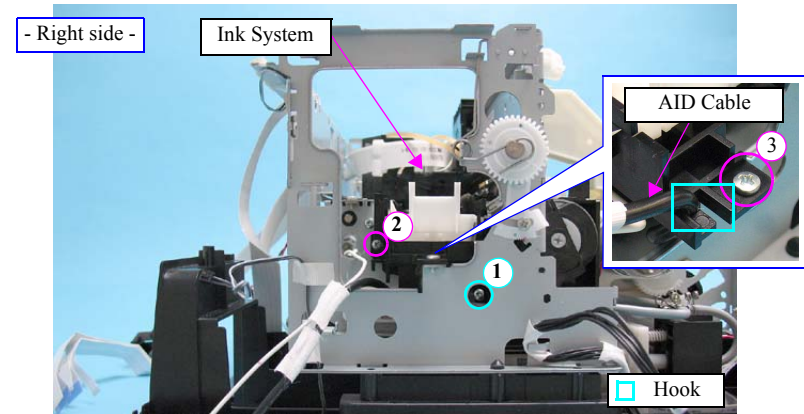

Figure 4-239. Removing the Ink System (2)
- Tighten the screws in the order indicated in Figure.4-239.
- Route the AID cable through the hook on the Ink System as shown in Figure.4-239.